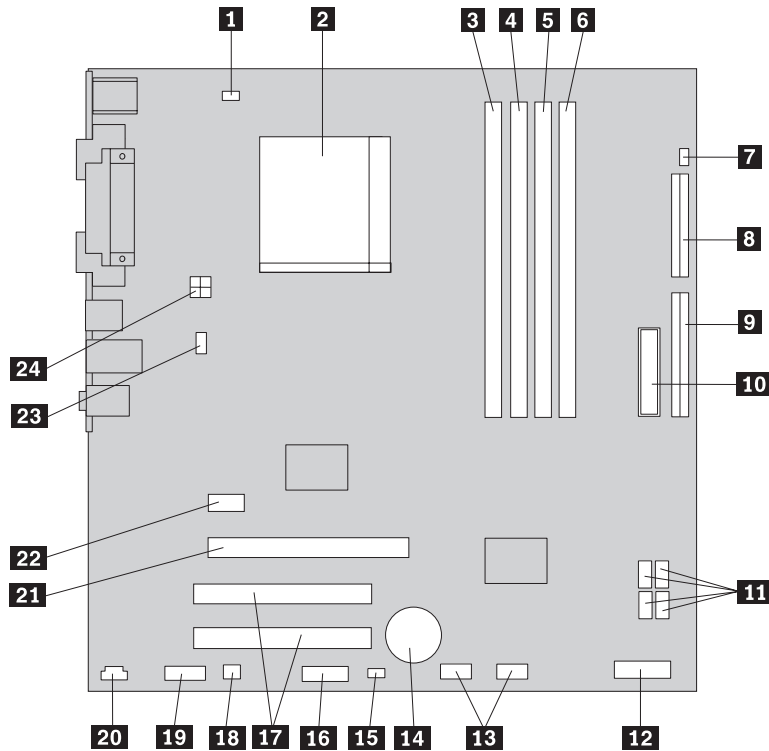

Figure 4. System board parts locations
Figure 4 shows the locations of parts on the system board for some computer models.
4. Locate the memory connectors. See Figure 4 on page 7.